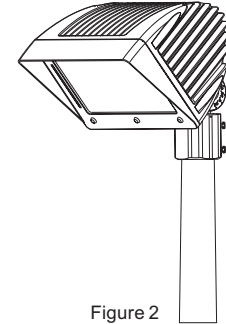

Figure 2
- 2). Put the fixture on the pole (Dia of pole: $\varnothing 48-62\text{mm}$) (Figure 2). Adjust the lighting direction accordingly then fasten screws.